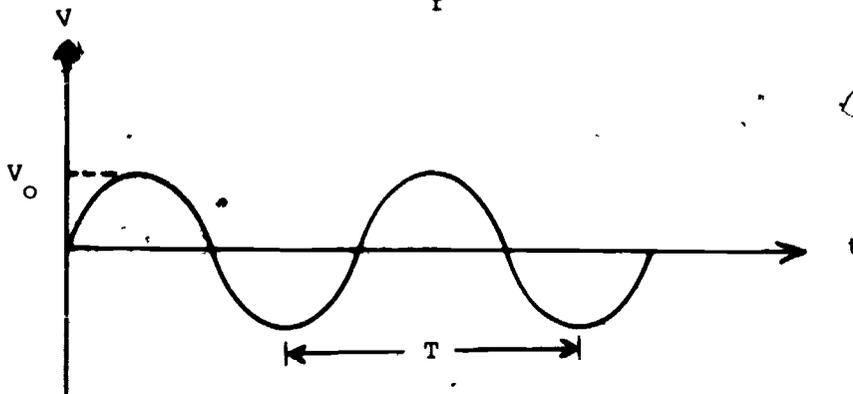

Figure 9.
where V_0 is the amplitude as indicated in Figure 9, f is the frequency, and t is time. The period (T) of the wave (or oscillation) is related to the frequency by